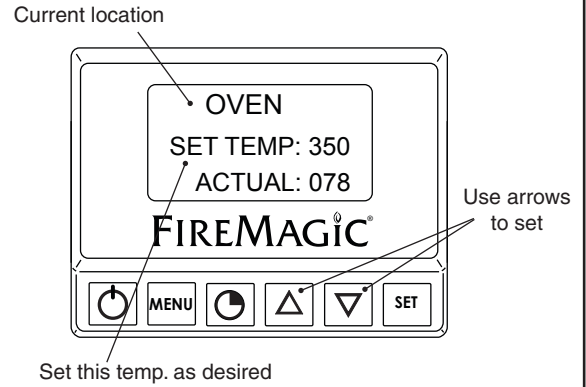

Fig. 19-1 Area temp. screen (oven shown)
2. The selected location's temperature screen will be displayed. Use the arrows to set the desired temp. The actual temp. will also be shown (see Fig. 19-1).